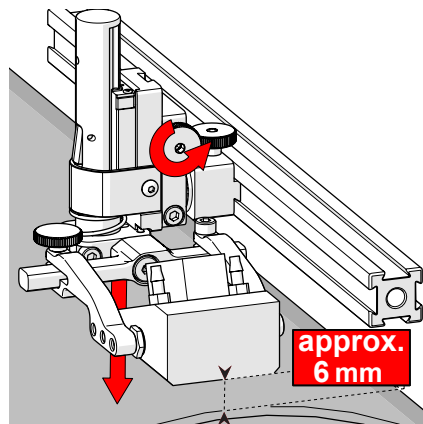

Fig. 110 - Lower toward scan surface
3. Tighten the vertical adjustment knob (Fig. 110).